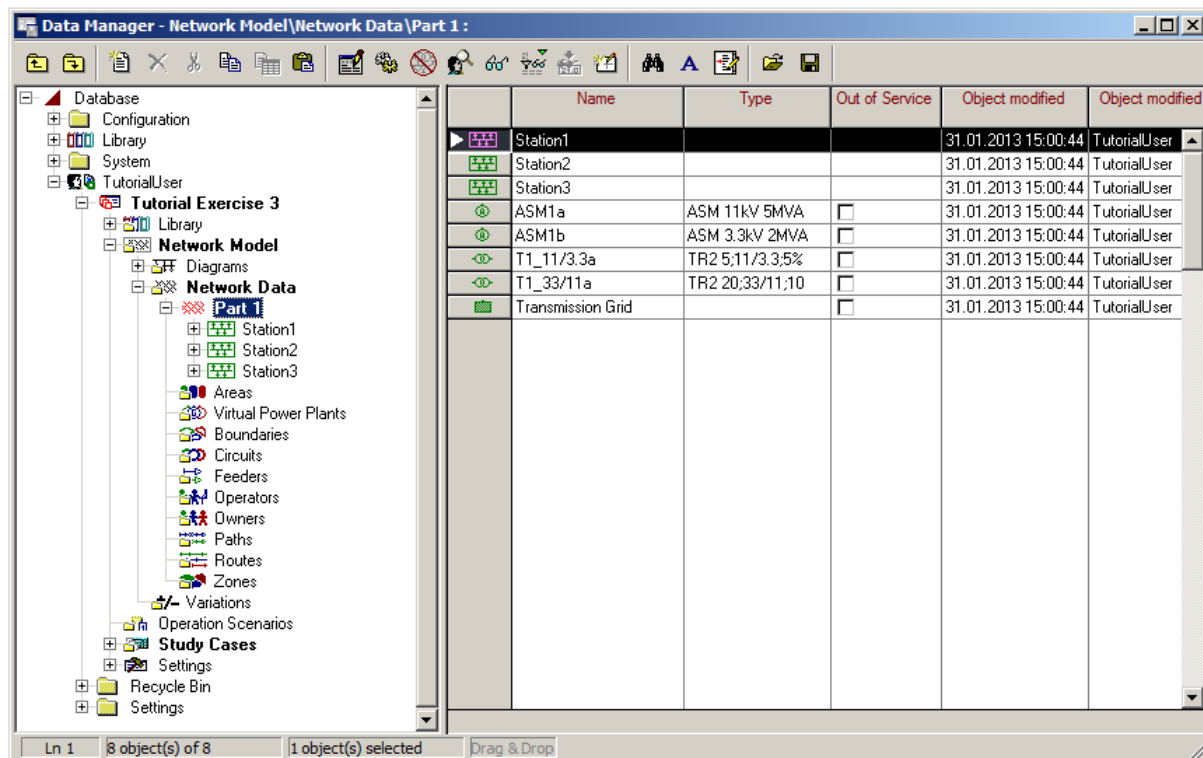

Figure E.0.1: The Data Manager
- Press the button 'Open Data Manager' () on the main icon bar. A Data Manager window, as depicted in Figure E.0.1, will be opened.
An open folder will show its status by a small minus sign (−). Left clicking this sign will close the folder. In Figure E.0.1, the folders “Tutorial User”, “Tutorial” (project), “Library”, “Network Model” etc. are open, the folders “Equipment Type Library”, “Operational Library” and so on are closed. The “Part 1” folder is selected in the tree, and its contents are thus shown in the browser on the right.